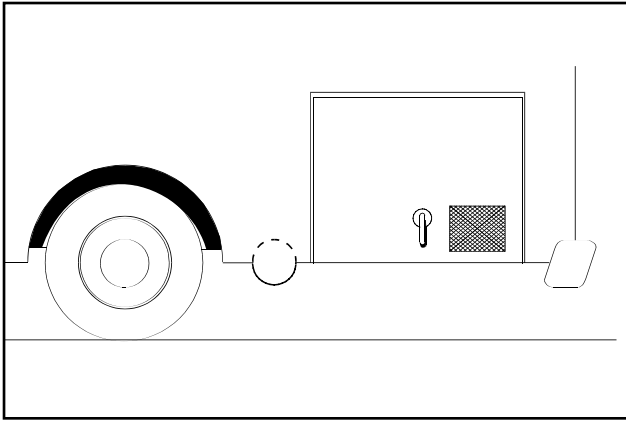

Figure 3 — Suspended Mount Inlet Door
- Provide a door in the vehicle skirt having an air inlet opening (Figure 3, next page).